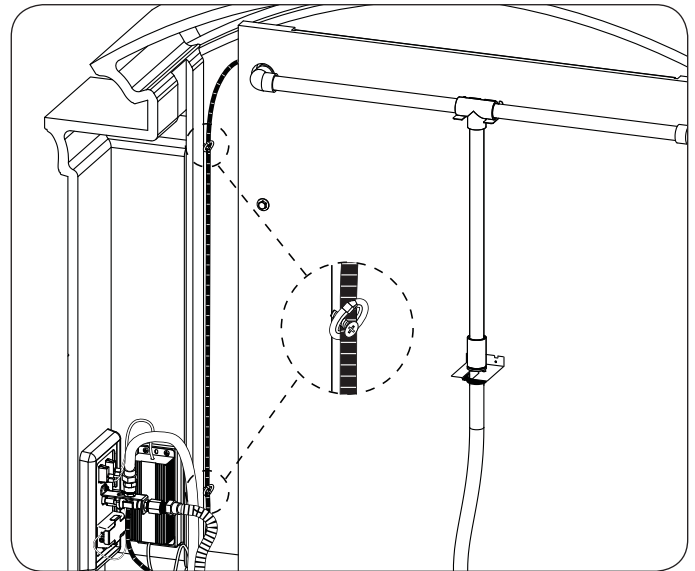

Fig. 23-2 Mount receiver wire
4. Mount the loose receiver wire along the interior of the top piece as shown in Fig. 23-2. Use the provided zip ties to secure the wire to the screws that are pre-installed to the interior of the top piece.